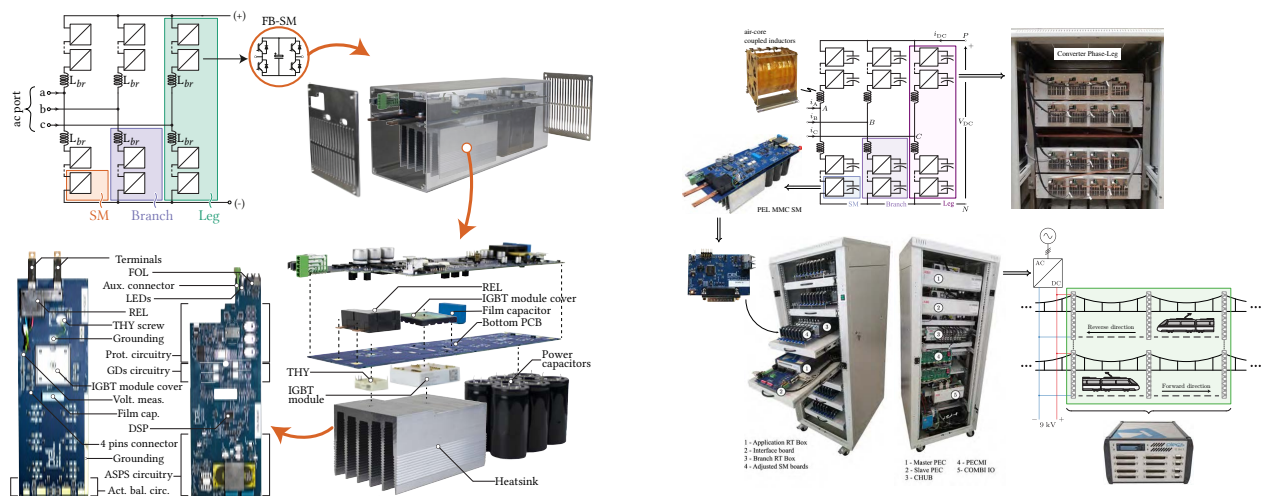

Figure 1. Left: Details of the existing LV submodule power design. Right: Illustration of the RT-HIL setup.
Project objectives are to develop and validate a prototype of the M3C submodule. Fig. 1 illustrates details of the available design realized with 1.2kV IGBTs, hence termed low voltage (LV) submodule. The new medium voltage (MV) submodule will preserve many conceptual solutions, but it requires significant hardware changes, due to higher operating voltage and use of 3.3kV power semiconductors. Complete local control system will be preserved (TI C2000 DSP), with minimalistic changes, due to already available and tested control algorithms, using available Rt-HIL systems at the Power Electronics laboratory. The main part of the MSc thesis work is: